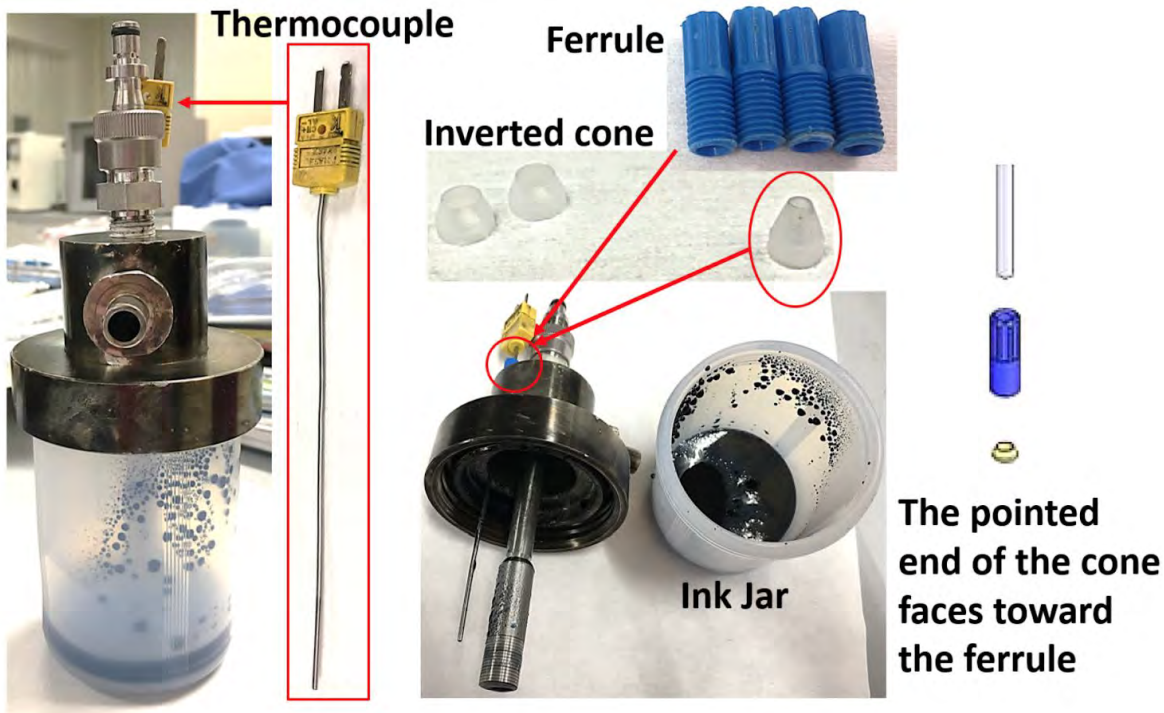
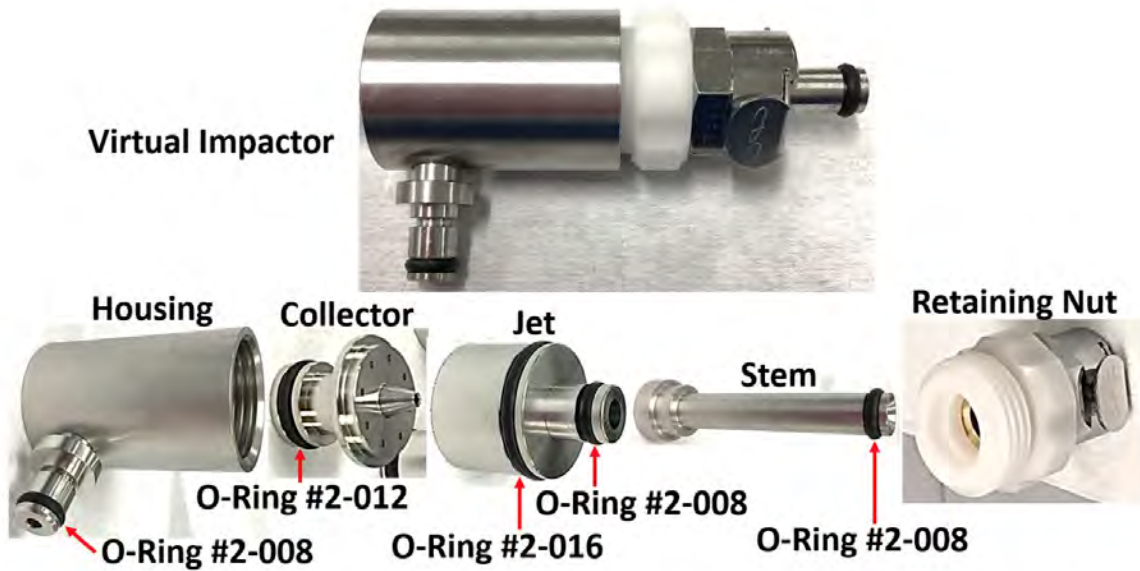
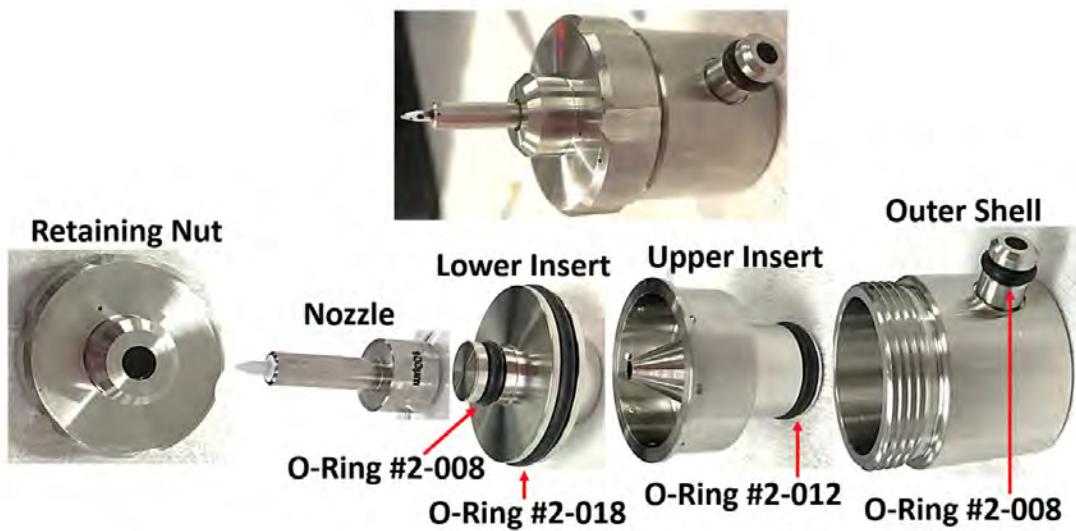

Figure 1: Pneumatic atomizer assembly
Figure 2: Fully assembled Virtual impactor (Top). The O-ring numbering and exploded view (bottom).
Figure 3: Fully assembled Fine feature nozzle (Top). The O-ring numbering and exploded view (bottom).
The Optomec setup begins with assembling the machine. This is an overview of the three important components that will be necessary to run the tool. The atomizer will take your material and atomize it and it will go through the virtual impactor and out the printhead. The exploded views of the three main subassemblies illustrate how individual parts fit together with the O-rings: (1) pneumatic atomizer Figure 1, (2) virtual impactor Figure 2, and (3) printhead Figure 3.